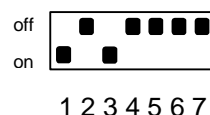

Figure 12: DIP switch settings to enable repeater mode for an L-Switch XP
1. Set the L-Switch XP into repeater mode (switch OFF subnet/node learning and group learning) by setting DIP switches 1 and 2 in the appropriate position (see Figure 12).
Figure 12 shows the proper DIP switch settings for repeater mode, assuming all other DIP switches remain in the factory default position.